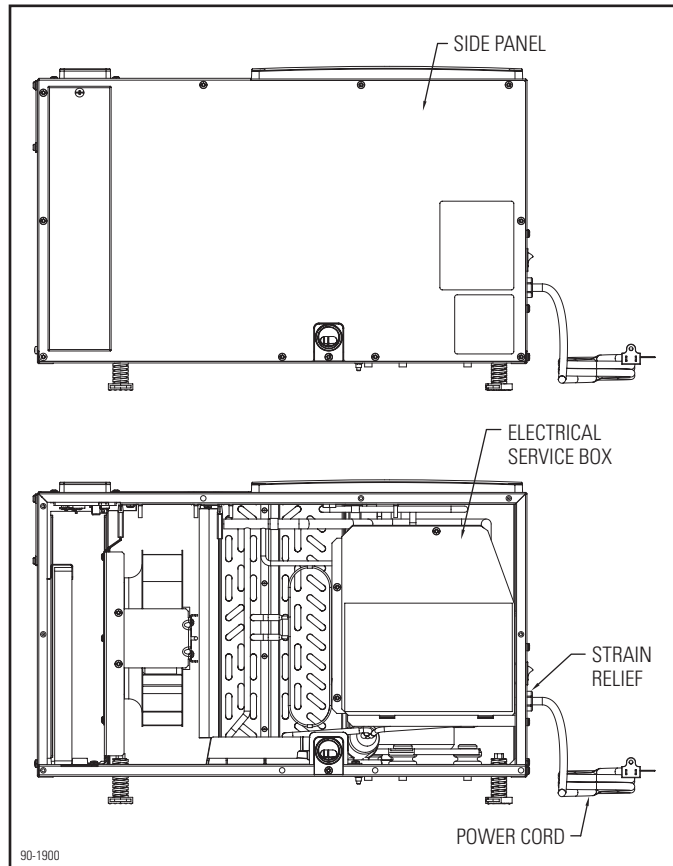

Figure 5. Electrical Service Box Location
3. Remove the side panel and electrical service panel from the dehumidifier. See **Figure 5**.
5. Use pliers to pinch the strain relief and pull it out of the dehumidifier cabinet along with the power cord. See **Figure 5**.